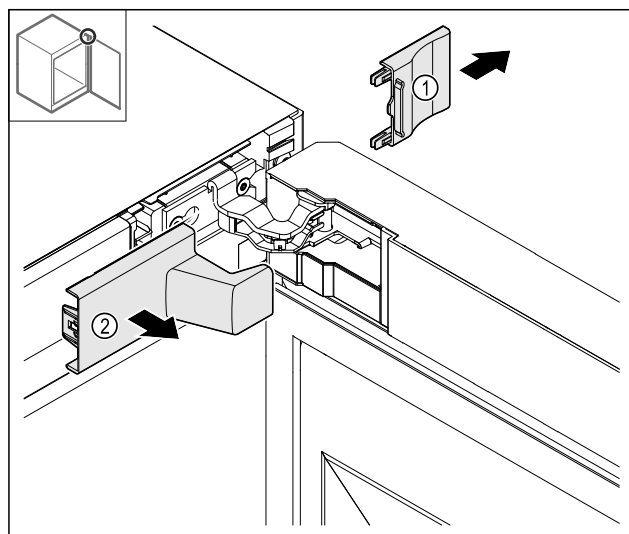

Fig. 14
► Remove the cover Fig. 14 (1) and then Fig. 14 (2).